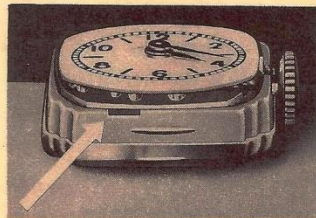

FIGURE 1
"America's Most Accurate Small Watch" is the creditable expression chosen by watch experts, everywhere, to describe Hamilton's Grade 911. This movement has been especially recognized because of its contribution of several important technical innovations. And its precision performance combined with desirable small size and a cushion shape which permits greater variety of case styling have earned equal wide acclaim from thousands of satisfied wearers. To examine a Grade 911 movement, first remove the bezel. Then *be sure to note the small slot in the cup between numeral six (6) and seven (7)* — as shown in Figure 1. This slot is provided for re-